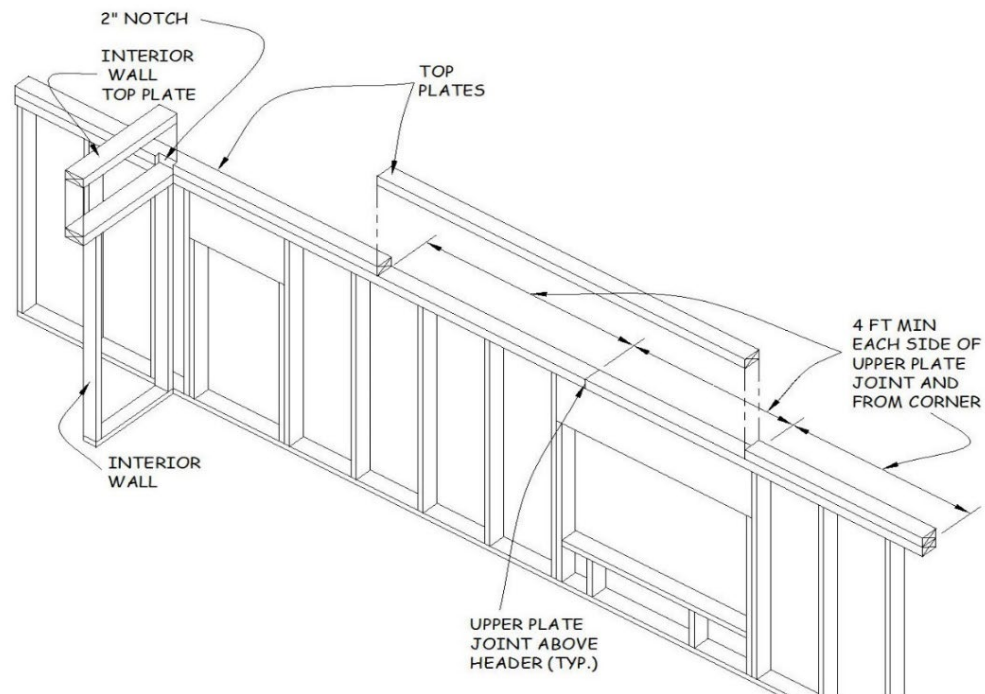

Figure 5-6. Exterior Wall Top Plate Installation.
2. The top plate on all bearing walls must extend a minimum of 4' on each side of the wall plate joint, and at each corner (see Figure 5-6).